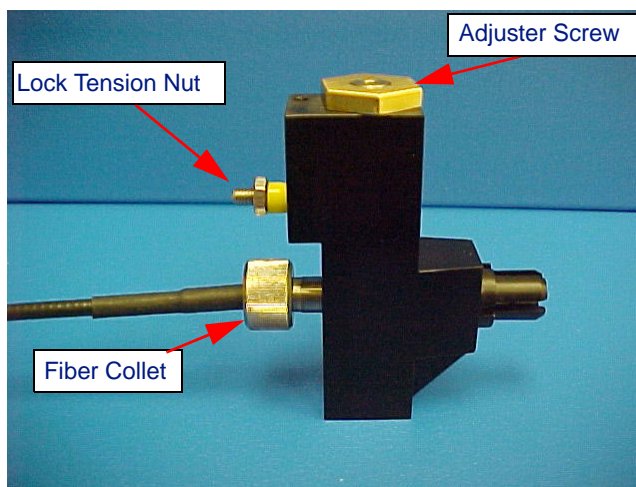

Figure A-4: Optical fiber receiver and positioner
3. Unscrew the fiber collet (see Figure A-4).